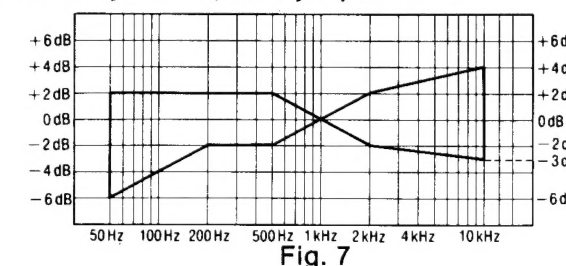

Fig. 7
3. Playback the signal recorded in step 2, and check that the level of each output frequency is within the range shown in Fig. 7 in comparison with the reference frequency (1kHz).